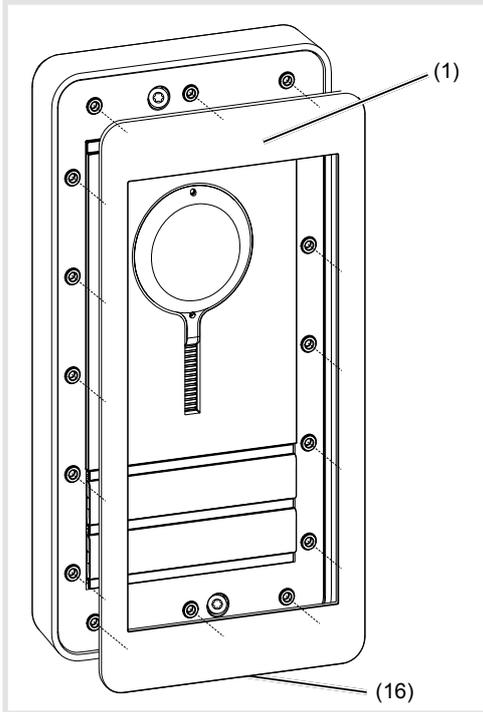

Figure 13: Clipping the design front plate on to the base.
- Clip the design front plate (1) on to the door station making sure that the unclipping slot (16) is pointing downwards (figure 13).